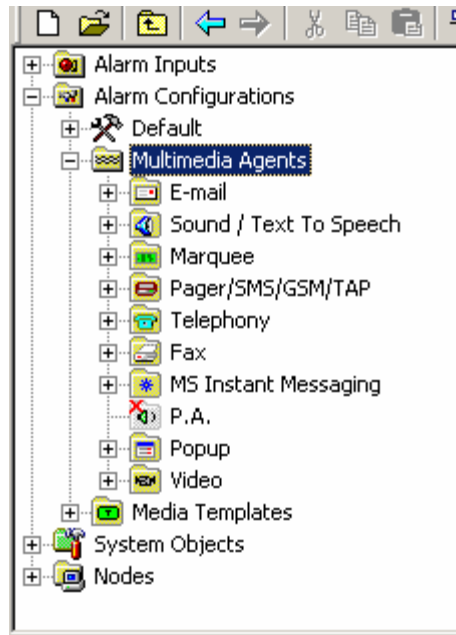

Figure 2.24. Multimedia Agents Tree Control
1. Right-click on the type of agent you wish to configure. Then select **New** and then the type of agent you wish to configure. The agent folders can be found in the **Multimedia Agents** folder, which is in the **Alarm Configurations** folder on the tree control, as shown in **Figure 2.24**.